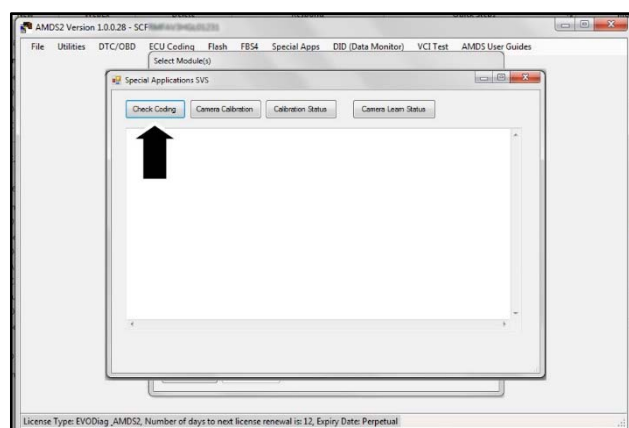

Figure 3
5. Select "Check Coding" to do a check of the coding (refer to Figure 3).